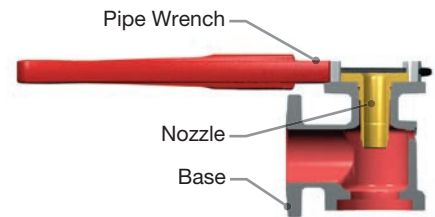

Figure 18: Removing the Nozzle from the Base
19. Use a large pipe wrench on the nozzle flange to remove the nozzle (2) from the base (1) (see Figure 18).